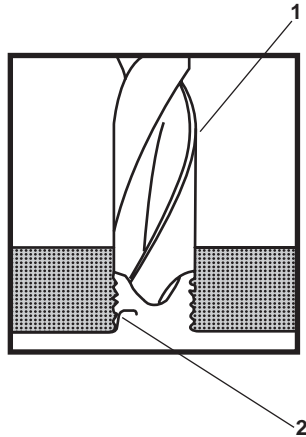

Figure 1. Removing Old Threads
3. Select the tap that corresponds to the external thread size and pitch of the insert selected in step 1 above. Also select the proper size drill bit (figure 1, item 1) for use with the tap.
4. Drill out the damaged threads (figure 1, item 2) using the drill bit (figure 1, item 1) selected in step 3 above. Chamfer the hole with a standard countersink (82° to 100°).